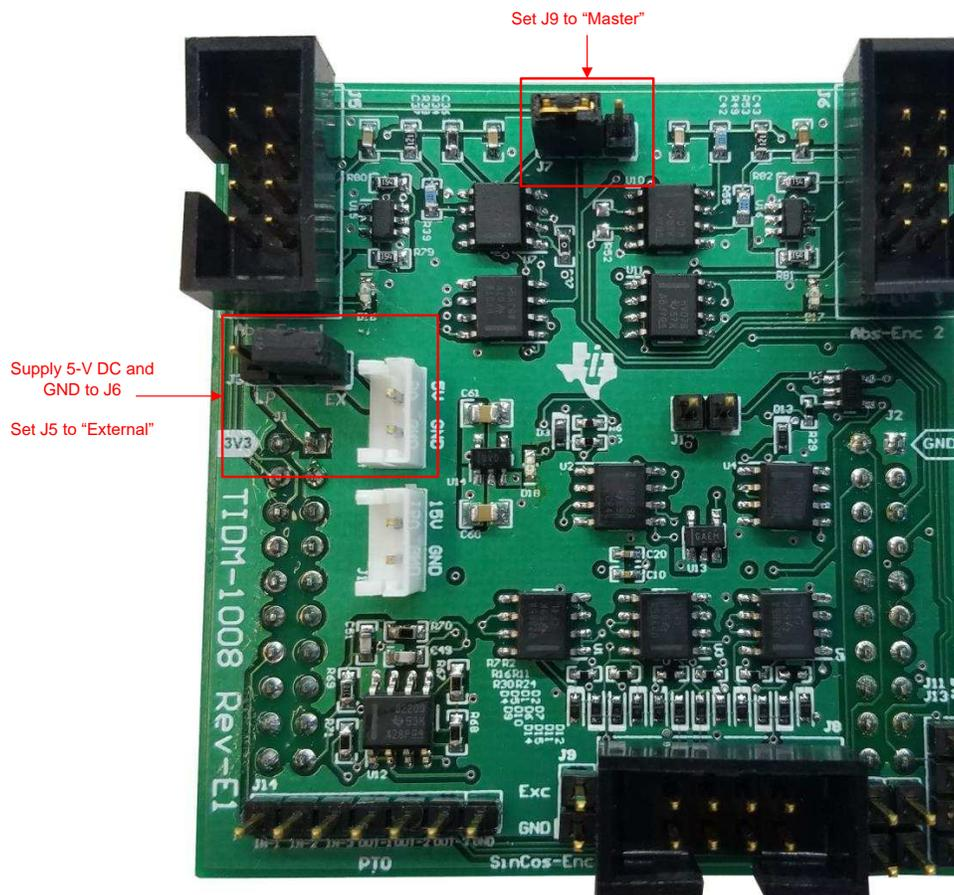
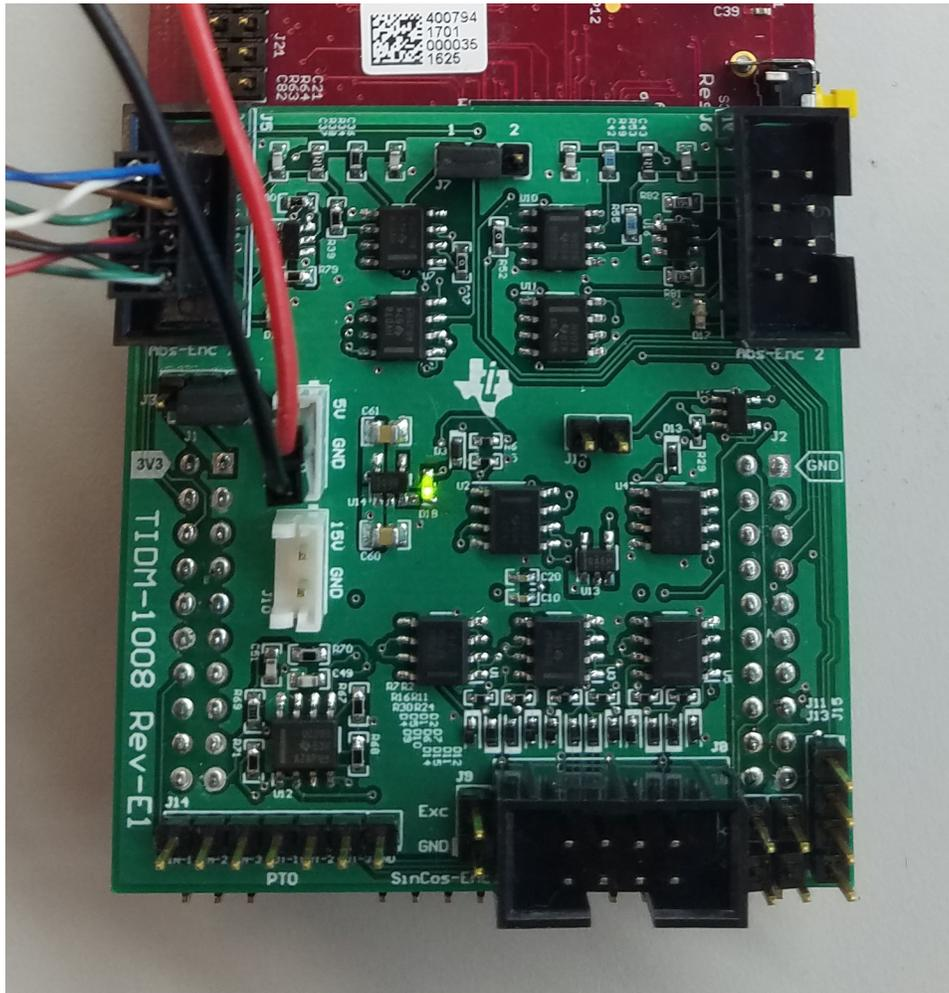

Figure 5. TIDM-1008 Board Jumper Configuration
Figure 12. TIDM-1008 Board Powered on and Connected to Heidenehain Encoder
Figure 5 shows the jumper configuration for TIDM-1008.
⁽¹⁾ This configuration requires providing an external power source to J6 as shown in Figure 5.
- Supply 5-V DC and GND to J6 as shown in Figure 5. The board should now look like Figure 12. LED D18 should light, which shows that the board has power.